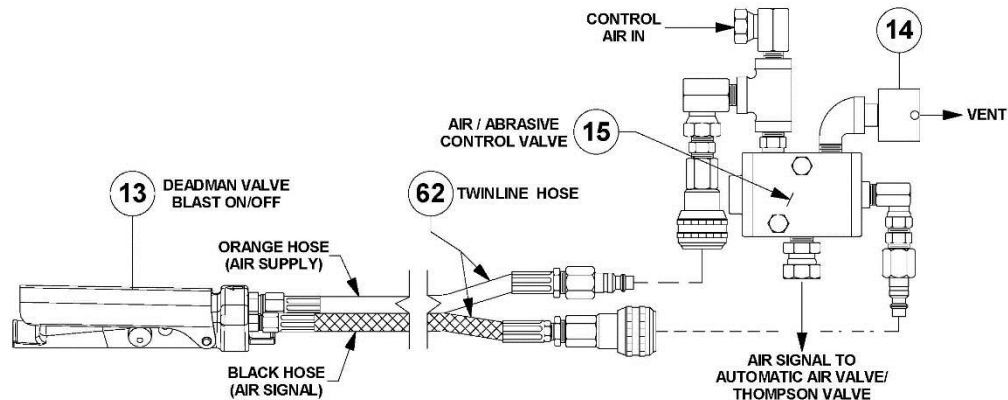

Figure 5.5 – Thompson Valve Pneumatic Blast Control System
5.12.1. Pneumatic Deadman System: When the pneumatic deadman lever is pressed down, air supply from the orange hose of the twinline hose (#62) flows into the black hose. Air flows through the black hose to the signal port of the control valve (#15) causing it to open and send air signals to the Combo Valve® (#5), auto air valve (#58) and the Thompson Valve (#12). When the deadman lever is released the air signal is cut off and the remaining air vents from the breather (#14). See Figure 5.5 and the drawing in Section 9.1 and 9.2.